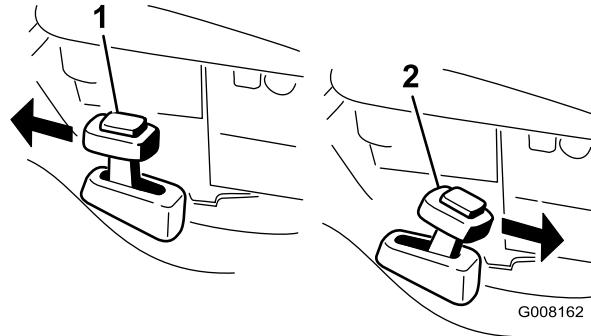

Figure 19
2. Press the button on top of the Recycling/bagging lever and move the lever to the **recycling** mode (Figure 19).
of the Recycling/bagging lever and move the lever to the **bagging** mode (Figure 19).
Note: The Recycling/bagging lever should be in the **bagging** mode (Figure 19).